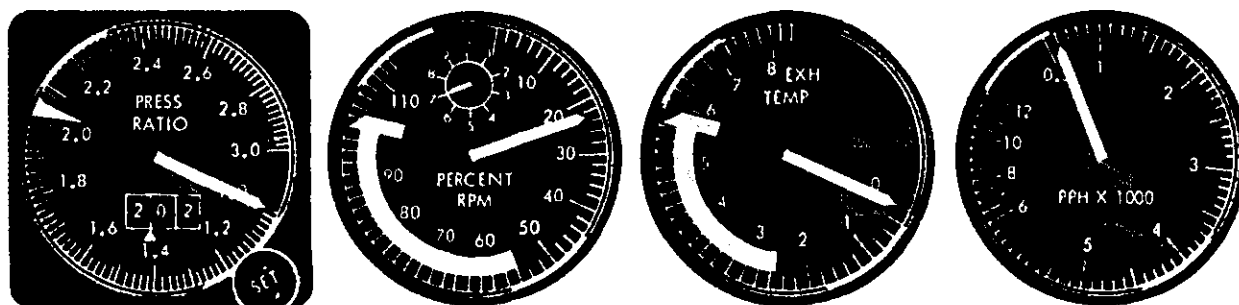

FIGURE 8. Turbojet engine instrument diagram.
4. During an unsuccessful starting attempt you observe the indications shown on the engine instrument diagram, Figure 8. What is the most likely source of trouble in this event?